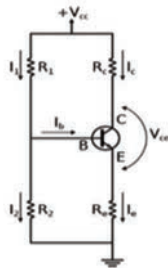

Figure 5.27 Ch 5: No. 9, self-test
9. Determine the Q-point for the circuit shown in Figure 5.27, if R_1 is $20\text{ k}\Omega$, R_2 is $15\text{ k}\Omega$, R_C is $3\text{ k}\Omega$, R_E is $2\text{ k}\Omega$, V_{CC} is 15 V , and β_{DC} is 150. (Assuming a silicon BJT)